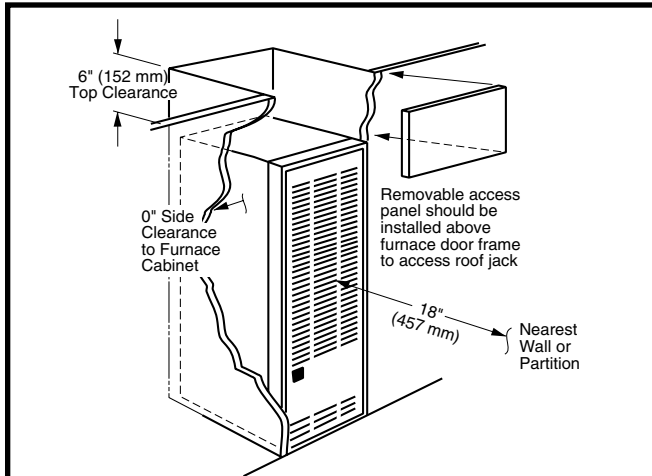
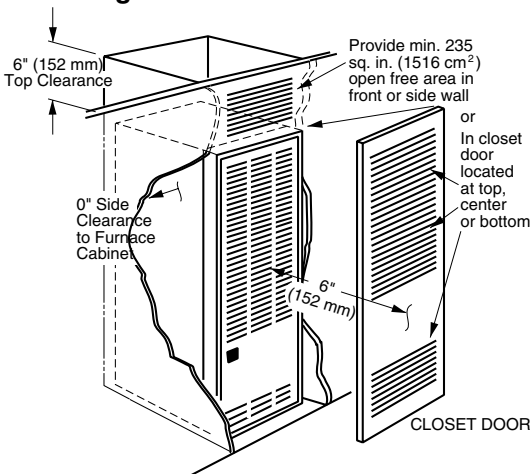
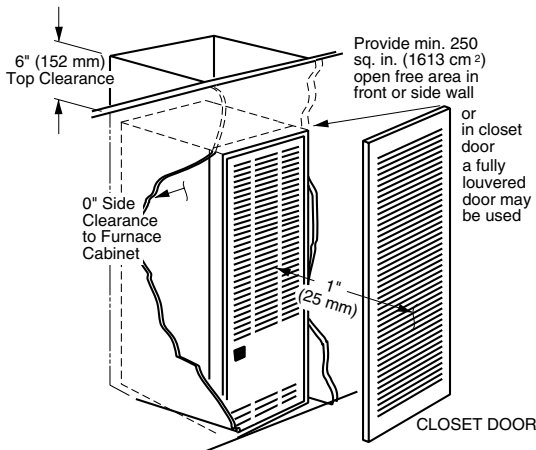

Figure 1. Alcove Installation
Figure 2. Closet Installation
Figure 3. Special 1" Clearance
This heating appliance must be installed with clearances not less than the minimums listed in Table 1, \(page 5\). This furnace must be installed with ample clearance for easy access to the air filter, blower assembly, burner assembly, controls, and vent connections. See Figure 1, Figure 2, and Figure 3.
- The dimensions of the room or alcove must be able to accommodate the overall size of the furnace and the installation clearances listed in Table 1, \(page 5\) and Figure 1 \(page 4\)